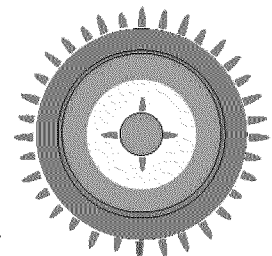

Fig. 4
3. Visually check that both the inner and outer rings are lit -*Fig. 4*.